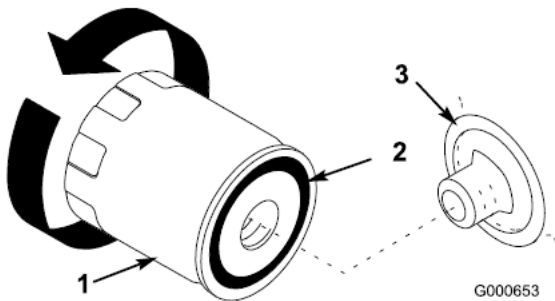

Figure 22
6. Remove the old filter and wipe the filter adapter (Figure 22) gasket surface.
9. Apply a thin coat of new oil to the rubber gasket on the replacement filter (Figure 22).
10. Install the replacement oil filter to the filter adapter. Turn the oil filter clockwise until the rubber gasket contacts the filter adapter, then tighten the filter an additional 3/4 turn (Figure 22).